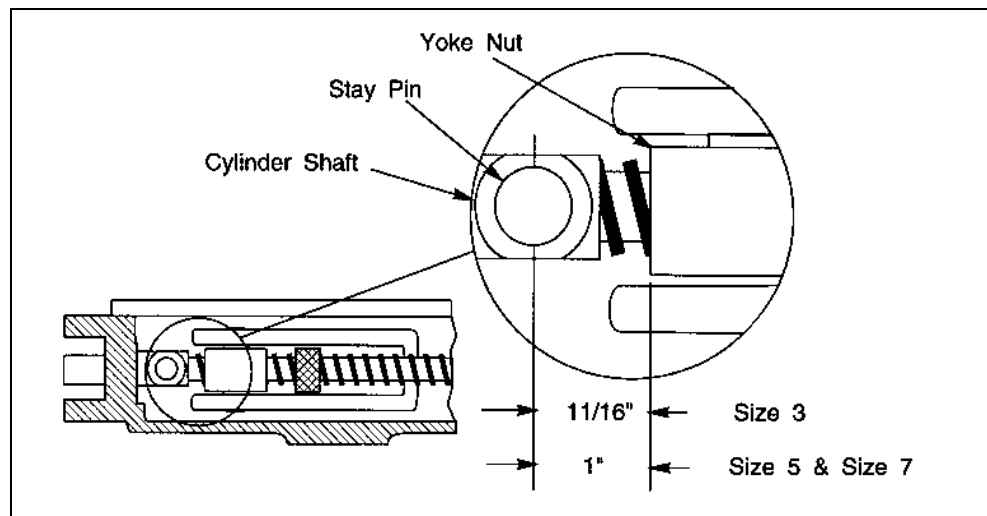

Figure 1- Distance from Stay Pin Hole to Yoke Nut
1. Screw the cylinder into the yoke nut and stop nut. Figure 1 shows the correct distance from the stay pin hole to the yoke nut.